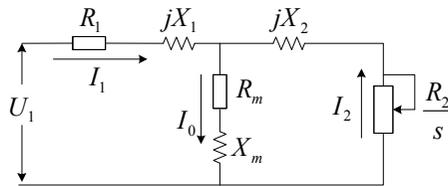

Fig. 5-10-1 Motor equivalent circuit
- ◆ See Fig 5-10-1 for details.
- ◆ In Fig. 5-10-1,  $R_1$ ,  $X_1$ ,  $R_2$ ,  $X_2$ ,  $X_m$ , and  $I_0$  represent resistance of stator, leakage inductance of stator, resistance of rotor, leakage inductance of rotor, mutual inductance and current without load respectively. The setting of PA.05 is the sum of leakage inductance of stator and leakage inductance of rotor.